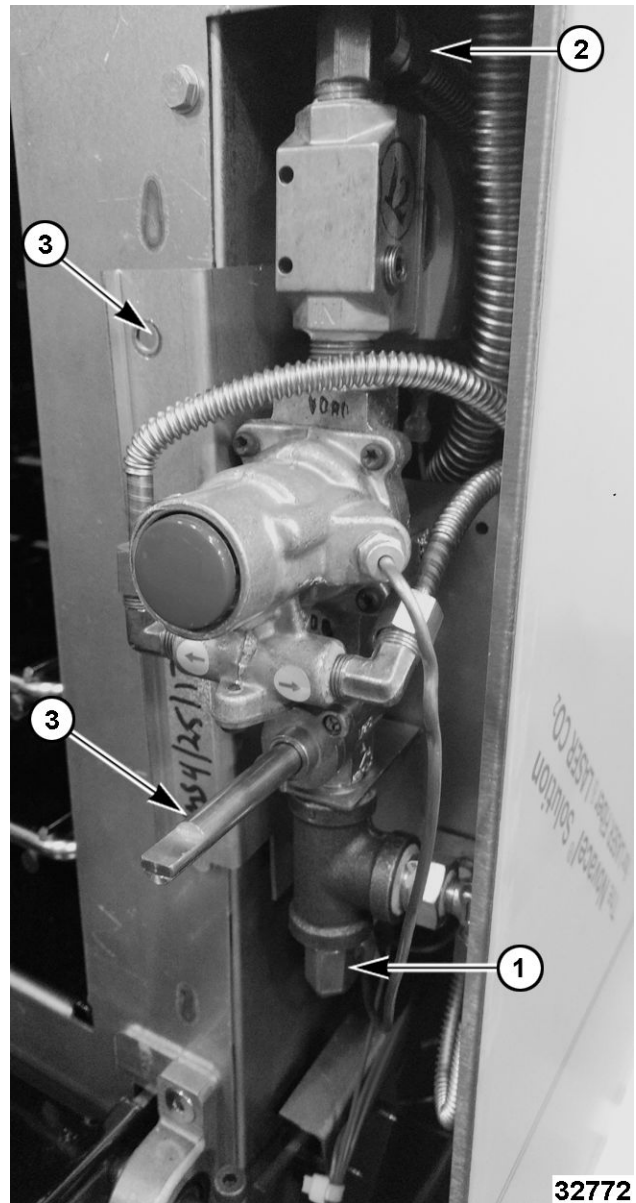

Fig. 30
3. Disconnect flex line from tee fitting (1, Fig. 30) below manual gas shut-off valve.
4. Disconnect flex line (2, Fig. 30) from top of solenoid.
5. Remove screws (3, Fig. 30) securing gas mount bracket.